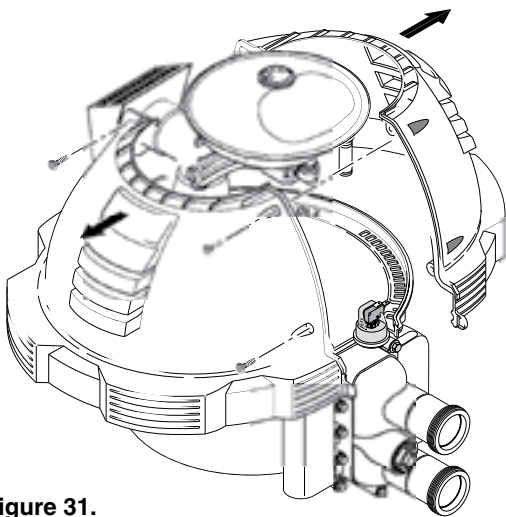

Figure 31.
2. Unbolt and remove the upper jacket halves (see Figure 31).